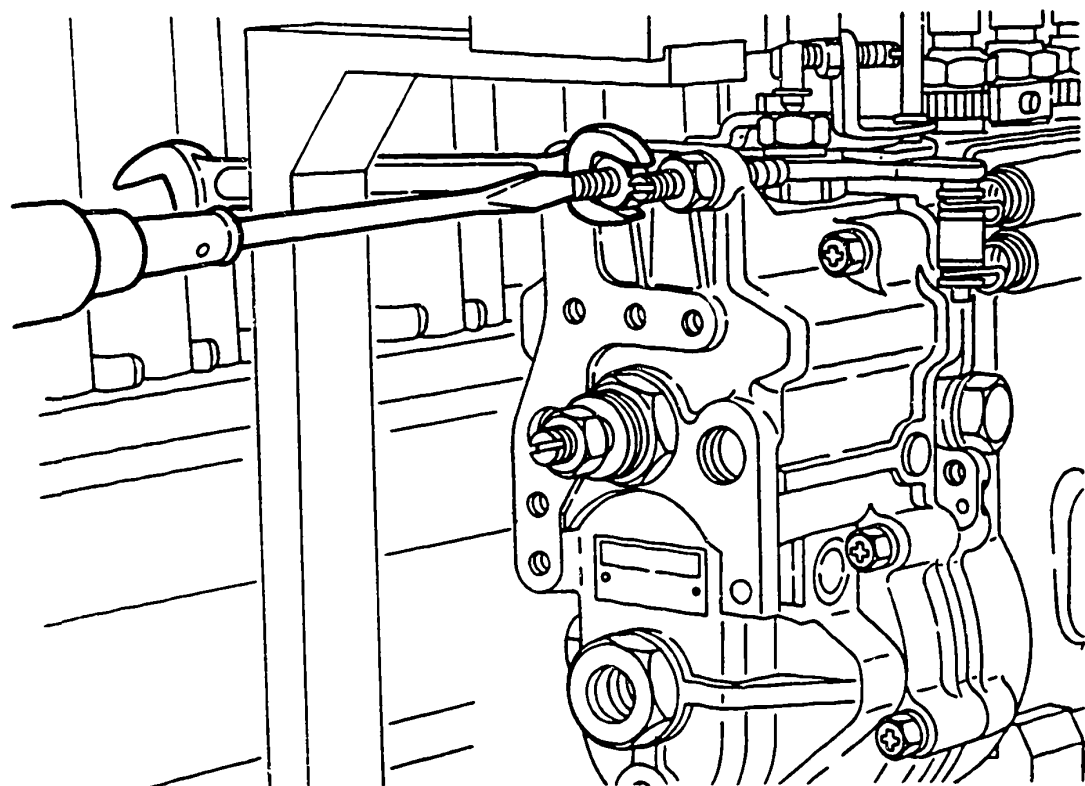

Fig. 90: Temporary adjustment of control lever
Hold pump speed at $80 - 100 \text{ min}^{-1}$ and adjust idle-speed adjusting screw (174) (Figs. 90 and 91) such that control rod is in position Ra.